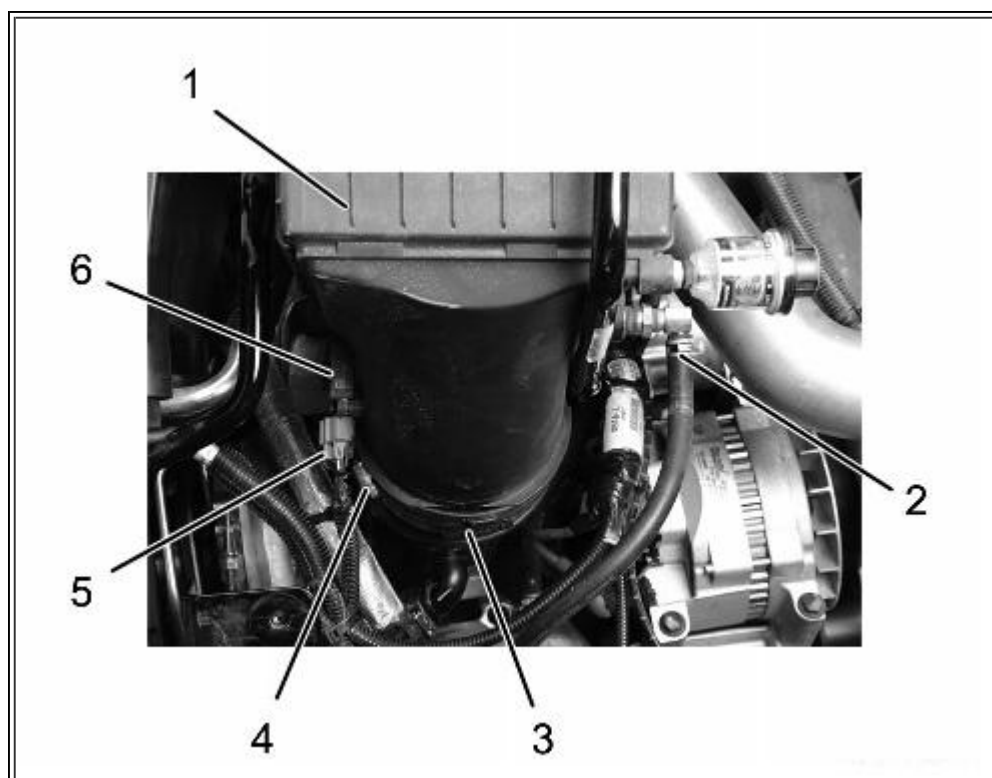

**Figure 1. MAF Sensor and Air Compressor Inlet Hose.**
6. Disconnect MAF sensor connector (Figure 1, Item 5) from MAF sensor (Figure 1, Item 6).
7. Disconnect air compressor inlet hose (Figure 1, Item 2) from air box (Figure 1, Item 1).
8. Loosen air box to LP turbocharger inlet elbow duct clamp (Figure 2, Item 4) and remove LP turbocharger inlet elbow duct (Figure 1, Item 3).